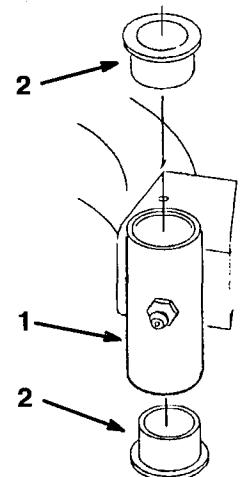

Figure 25
4. Insert a pin punch into the mounting tube and carefully drive out the bushings (Fig. 25). Clean the inside of the mounting tube.
5. Grease the inside and outside of the new bushings. Use a hammer and flat plate to carefully drive the bushings into the mounting tube (Fig. 25).